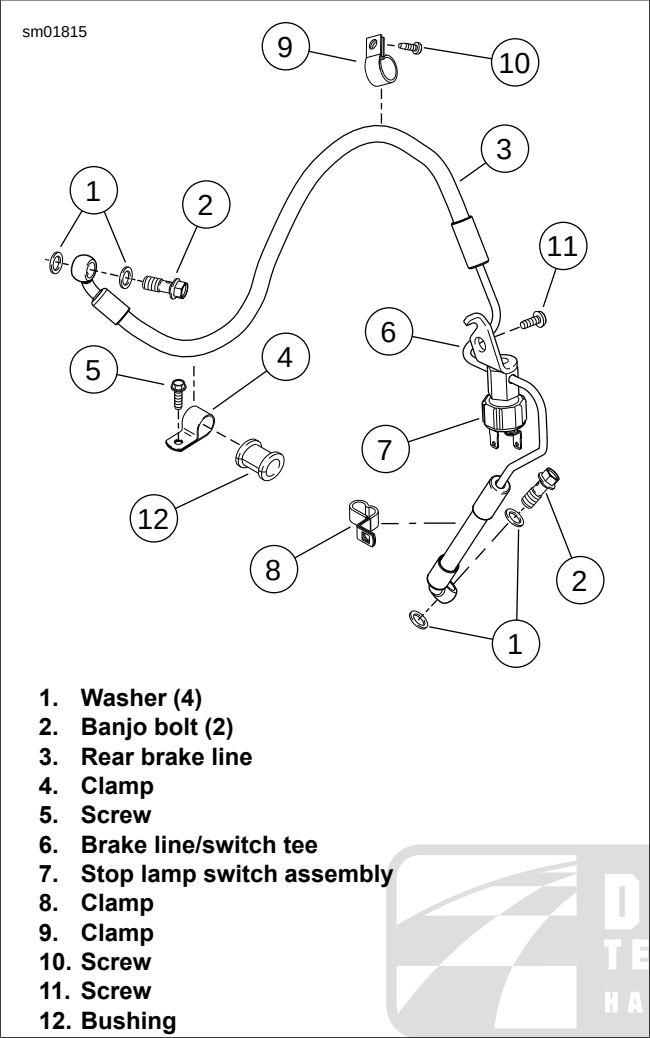

Figure 2-131. Rear Brake Line: XL Models
3. See Figure 2-131. Unplug harness connectors [121] from stop lamp switch (7).
4. Remove banjo bolt (2) and washers (1) to detach rear brake line (3) from master cylinder body and rear brake caliper. Discard washers.
5. Remove screw (5) to detach brake line clamp (4) with bushing (12) from rear fork.
6. Remove screw (10) to detach brake line clamp (9) from battery tray bracket.
7. Remove screw (11) securing brake line/switch tee (6) to battery tray bracket.
8. Feed brake line up through clamp (8).
1. See Figure 2-131. Thread stop lamp switch (7) into brake line/switch tee (6) on **new** rear brake line (3). Hold hex body of brake line/switch tee with an open-end wrench. Tighten stop lamp switch to 132-168 **in-lbs** (14.9-18.9 Nm).
2. Feed rear brake line down through B-clamp (8).
3. Position brake line/switch tee mounting bracket on battery tray bracket. Secure with screw (11). Tighten to 72-120 **in-lbs** (8.14-13.6 Nm).
4. Install clamp (9) and screw (10) to secure rear brake hose to battery tray bracket. Tighten screw to 30-40 **in-lbs** (3.4-4.5 Nm).